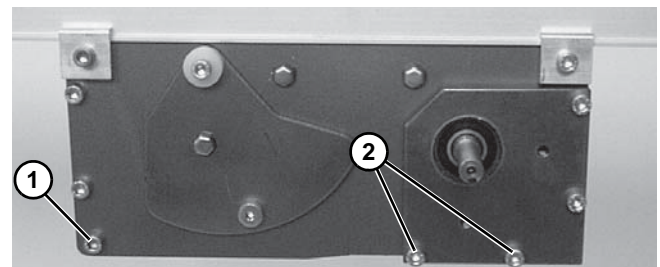

Figure 74
- Tighten corner screws (**Figure 74, item 1**) on each side of the drive module to 80 in-lb (9 Nm).
- Re-install tension door screws (**Figure 74, item 2**) on each side of the module. Tighten screws to 60 in-lb (6.8 Nm).
With vertically mounted gearmotors, tension door screws (Figure 74, item 2) are installed on one side when the gearmotor mounting package is installed.